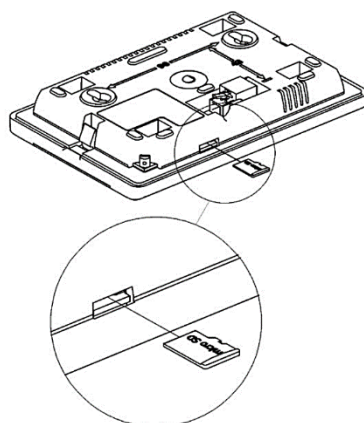

Figure 7. Inserting a microSD card into the control panel port
- There is a port for inserting a microSD card at the bottom of the control panel. Insert the card as in Figure 7.